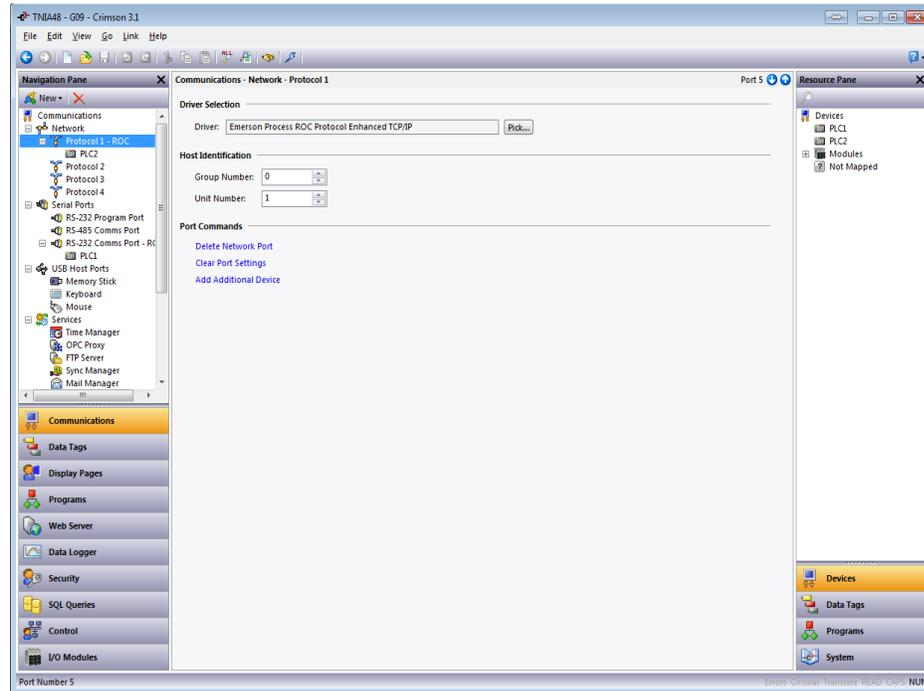

Figure 11.
- Click OK; the Communications - Network - Protocol 1 popup shown in Figure 11 appears.
10. Referring to Figure 11, configure the Host Identification section with the Group Number and Unit Number that the RLC device will use.